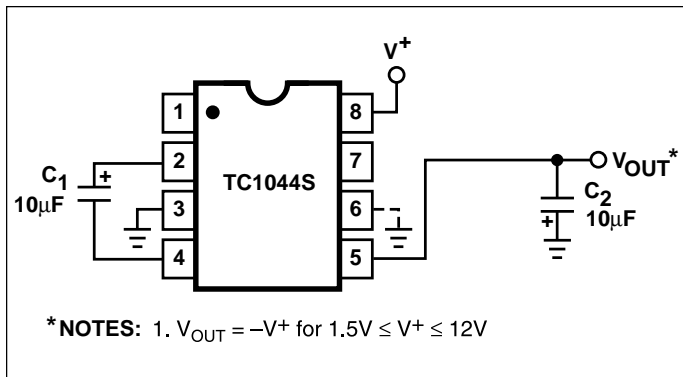
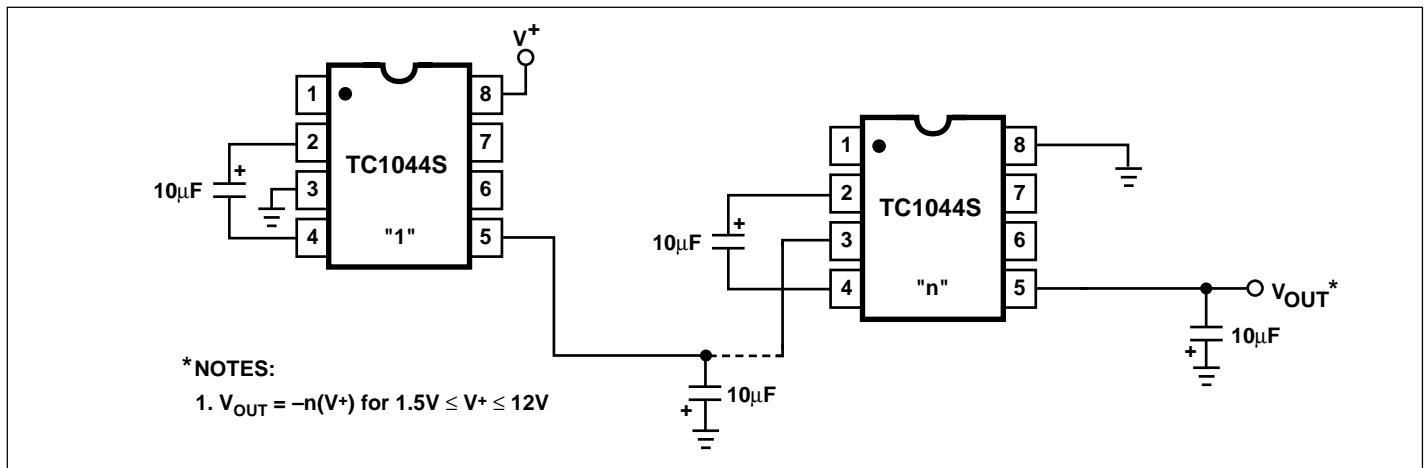
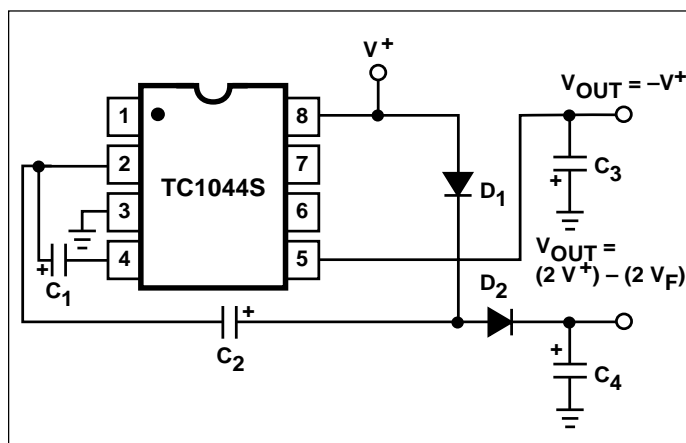
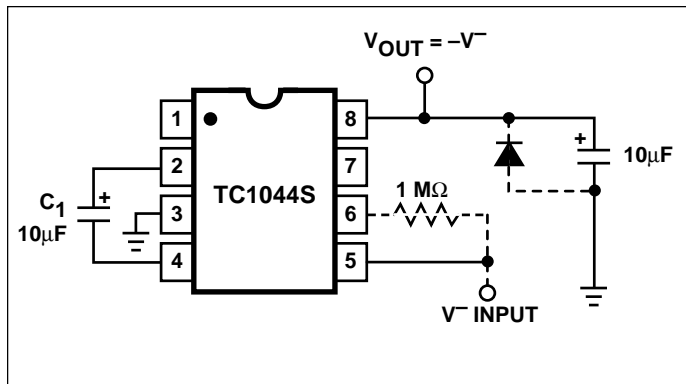

Figure 3. Simple Negative Converter
Figure 5. Increased Output Voltage by Cascading Devices
Figure 9. Combined Negative Converter and Positive Multiplier
Figure 10. Positive Voltage Conversion
Figure 3 shows typical connections to provide a negative supply where a positive supply is available. A similar scheme may be employed for supply voltages anywhere in the operating range of +1.5V to +12V, keeping in mind that pin 6 (LV) is tied to the supply negative (GND) only for supply voltages below 3.5V.
The output characteristics of the circuit in Figure 3 are those of a nearly ideal voltage source in series with  $70\Omega$ . Thus, for a load current of  $-10mA$  and a supply voltage of +5V, the output voltage would be  $-4.3V$ .
The TC1044S may be cascaded as shown (Figure 5) to produce larger negative multiplication of the initial supply voltage. However, due to the finite efficiency of each device, the practical limit is 10 devices for light loads. The output voltage is defined by:
Figure 9 combines the functions shown in Figures 3 and 8 to provide negative voltage conversion and positive voltage multiplication simultaneously. This approach would be, for example, suitable for generating +9V and -5V from an existing +5V supply. In this instance, capacitors  $C_1$  and  $C_3$  perform the pump and reservoir functions, respectively, for the generation of the negative voltage, while capacitors  $C_2$  and  $C_4$  are pump and reservoir, respectively, for the multiplied positive voltage. There is a penalty in this configuration which combines both functions, however, in that the source impedances of the generated supplies will be somewhat higher due to the finite impedance of the common charge pump driver at pin 2 of the device.
Since the switches that allow the charge pumping operation are bidirectional, the charge transfer can be performed backwards as easily as forwards. Figure 10 shows a TC1044S transforming -5V to +5V (or +5V to +10V, etc.). The only problem here is that the internal clock and switch-drive section will not operate until some positive voltage has been generated. An initial inefficient pump, as shown in Figure 9, could be used to start this circuit up, after which it
will bypass the other ( $D_1$  and  $D_2$  in Figure 9 would never turn on), or else the diode and resistor shown dotted in Figure 10 can be used to "force" the internal regulator on.
The same bidirectional characteristics used in Figure 10 can also be used to split a higher supply in half, as shown in Figure 11. The combined load will be evenly shared between the two sides. Once again, a high value resistor to the LV pin ensures start-up. Because the switches share the load in parallel, the output impedance is much lower than in the standard circuits, and higher currents can be drawn from the device. By using this circuit, and then the circuit of Figure 5, +15V can be converted (via +7.5V and -7.5V) to a nominal -15V, though with rather high series resistance (~250Ω).